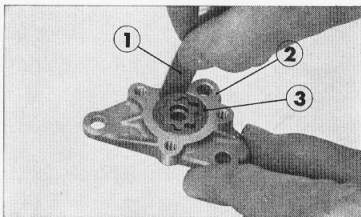

Figure 4. ① Thickness gauge ② Pump body ③ Outer rotor
2. Measuring the clearance between the outer rotor and the pump body. Insert the thickness gauge between the outer rotor and the pump body. (Fig. 4)